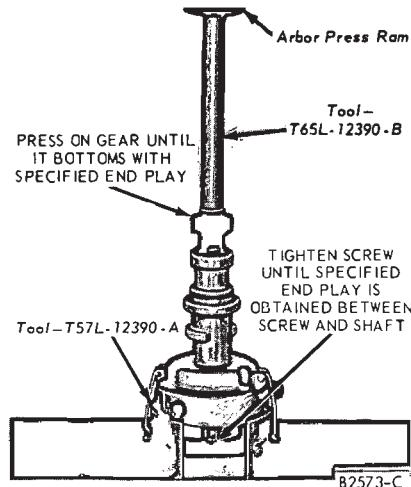

FIG. 22—Installing New Shaft and Gear—6-Cylinder Engine
2. Attach the distributor shaft supporting tool to the distributor and install the assembly in a vise. Insert a 0.003 inch feeler gauge between the backing screw and the shaft. Tighten the backing screw on the tool enough to remove all shaft end play. Remove the feeler gauge and allow the shaft to rest on the backing screw. Place the gear thrust washer in position. Press the gear on the shaft until it bottoms on the gear thrust washer (Fig. 22). Drill a 1/8-inch hole through the shaft using the access opening in the gear as a pilot.